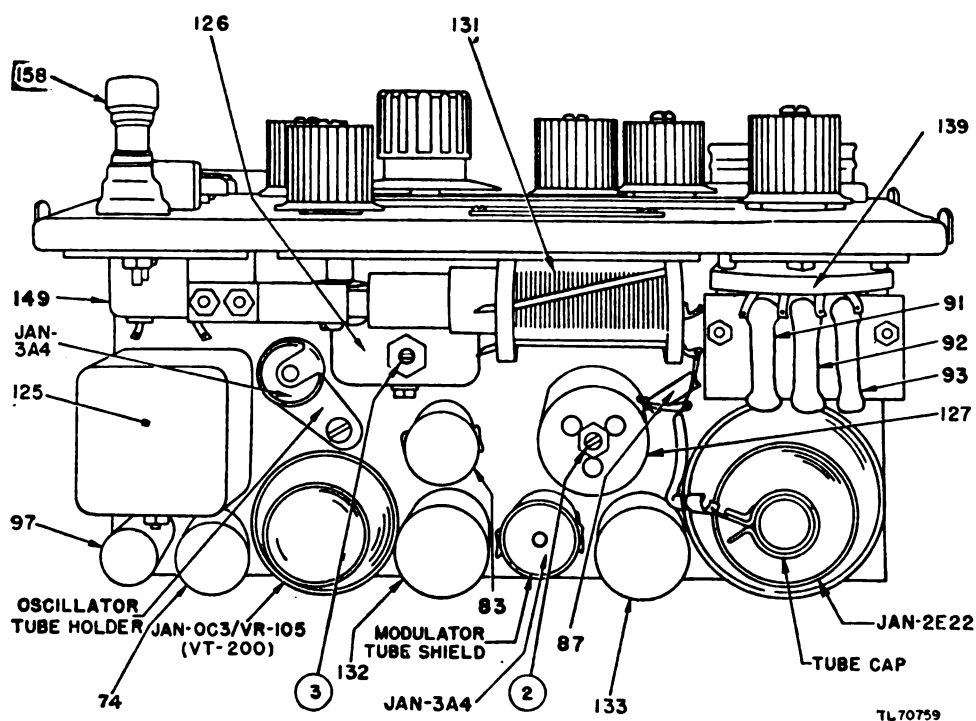

Figure 6. Parts identification of transmitter, top view, of Radio Receiver and Transmitter BC-1306.
c. **TUBES.** Remove the oscillator tube by loosening the tube holder (fig. 6), and lifting tube out of socket.